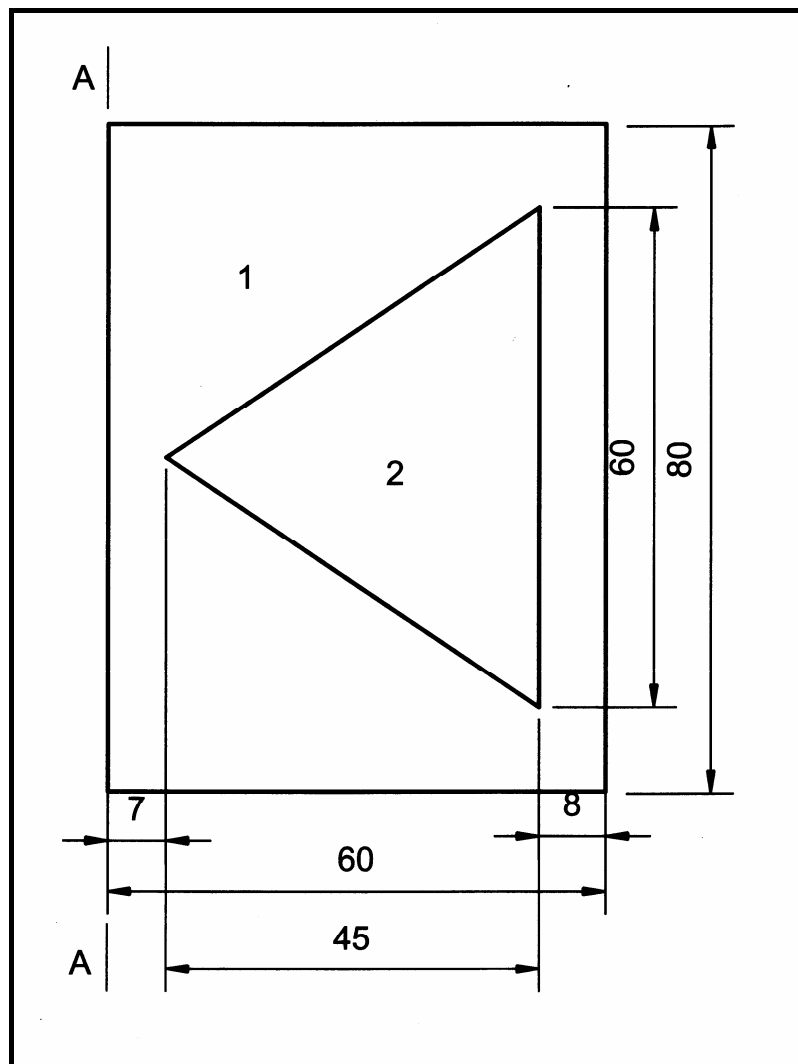

FIGURE 5.2
- 5.2 FIGURE 5.2 below shows the lamina of a figure with a triangular hole in it. ALL dimensions are in millimetres.